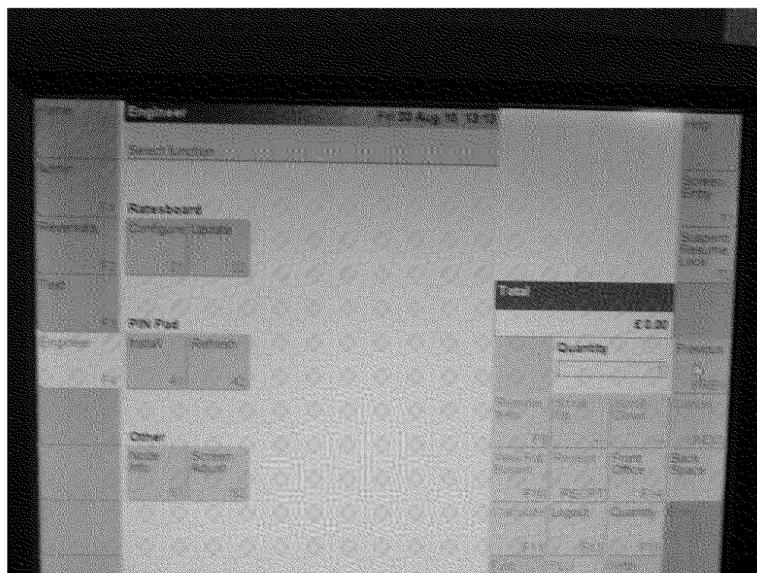
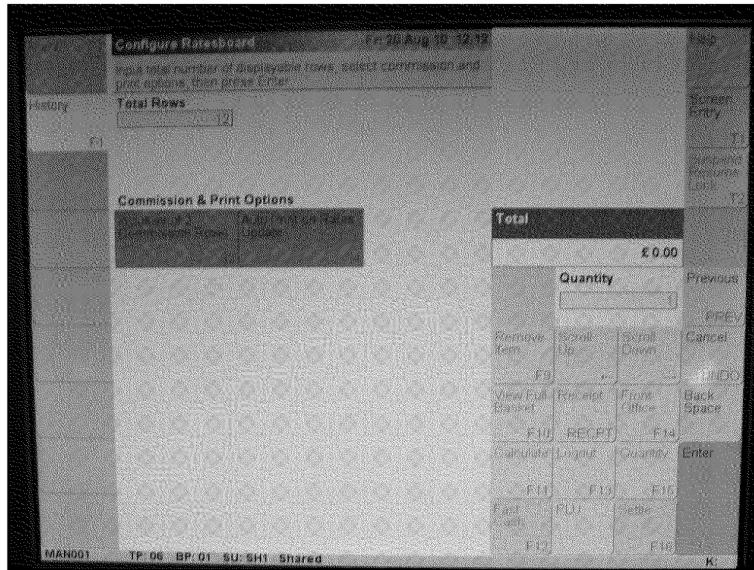

Figure 11
Figure 12
The Branch Manager should under Ratesboard touch the “Configure” icon or type 21 in order to start the process of reconfiguring the Rate Board confirming that the Rate Board is correctly configured. The Branch Manager will first be asked to input the number of rows on the Rate Board connected to the Counter Position (Figure 12)
- 2) The Branch Manager should enter the number of rows to correspond with the number of rows on the Rate Board attached to the Horizon Counter Position. If the displayed number of rows is incorrect, remove this entry using the ‘back space’ button on the keyboard or by touching the icon on the screen, then use the number pad to enter the correct number of rows. The Branch Manager will then be asked whether the last 2 rows should be reserved as commission lines (Figure 12).
- 3) The Branch Manager should decide whether the last two rows should be commission lines. If required he should touch the icon or type 32 on the keyboard. The Branch Manager will then be asked whether to Auto Print on Rates Update. (See Figure 12). If this icon is touched or keyboard 34 the A4 printer will print a new bureau rates report each time the rates are updated. When all the selections have been made press Enter on the screen or keyboard.
7) The Branch Manager should touch the ‘Update’ button keyboard 82 (See figure 12). The message “MSG10303 the ratesboard has been updated successfully” will appear. Press Print keyboard 84 to preview or print the new rates. Press Close to return back to the engineer screen (See figure 11 above).